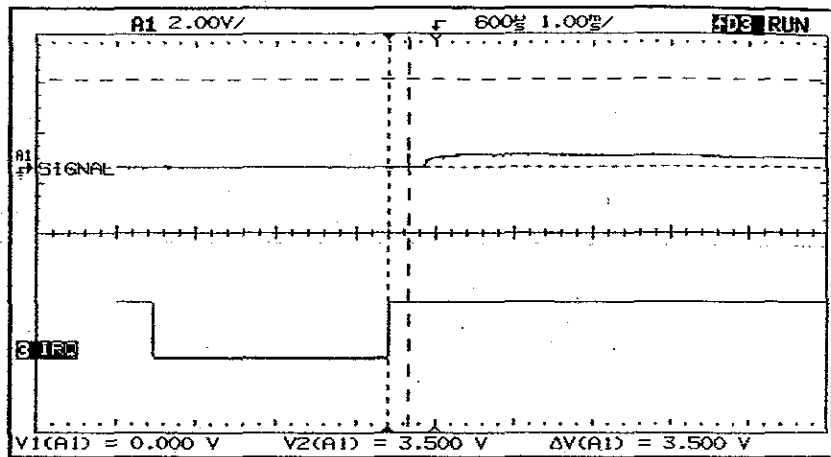

Figure 78
8. Carefully tilt the Monitor. Verify that after $\approx 270\mu\text{s}$ from the rising edge of TP4, there is no pulse $>3.5\text{V}$ (see Figure 78).